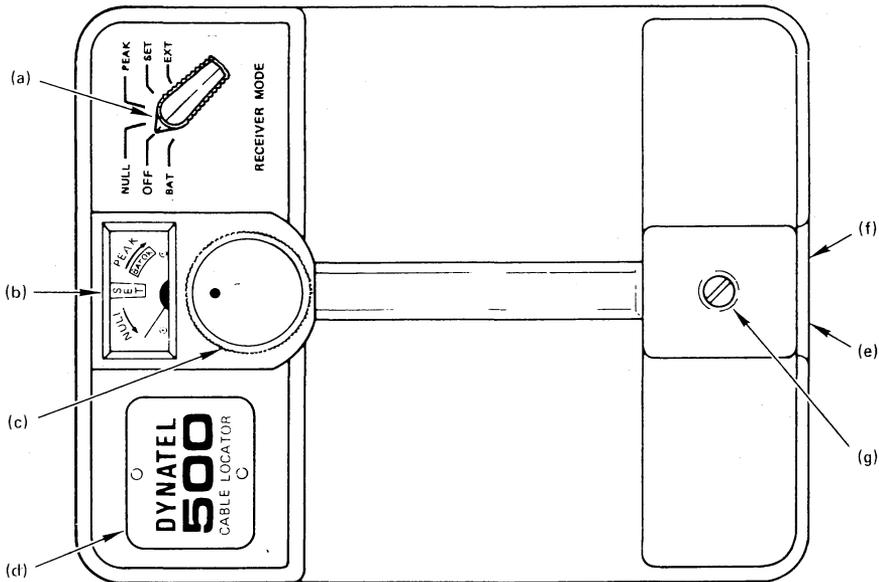

Fig. 4 — Receiver Unit Panel. Functions are Keyed to Text in Paragraph 2.03.
2.03 The Receiver Functions are shown in Figure 4 and described below: